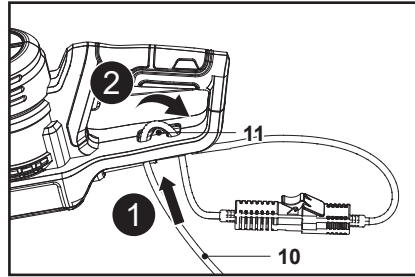

Fig. 3
2. Double the power cord (10) back, about 20 cm from the plug socket assembly and lead the loop through the hole of the cord retainer (11) and hang the loop over the hook (Fig. 3, steps 1, 2).